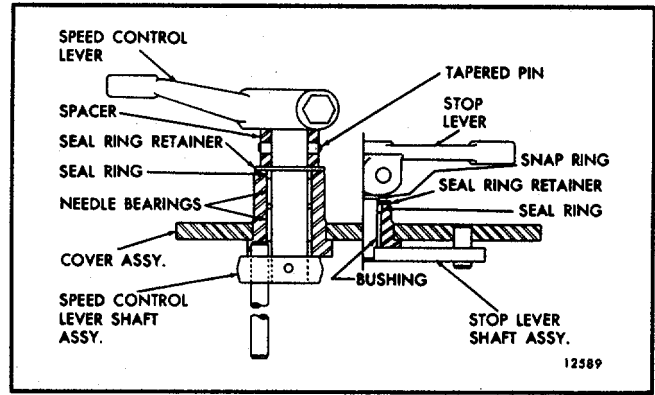

FIG. 9 - Cross Section of Former Design Governor Cover (other than Fuel Squeezer Engines)
h. Remove the bushing or bearings from the stop lever shaft opening using remover J 8985 as shown in Fig. 9.
2. Disassemble the former design governor cover (Fig. 9) as follows: